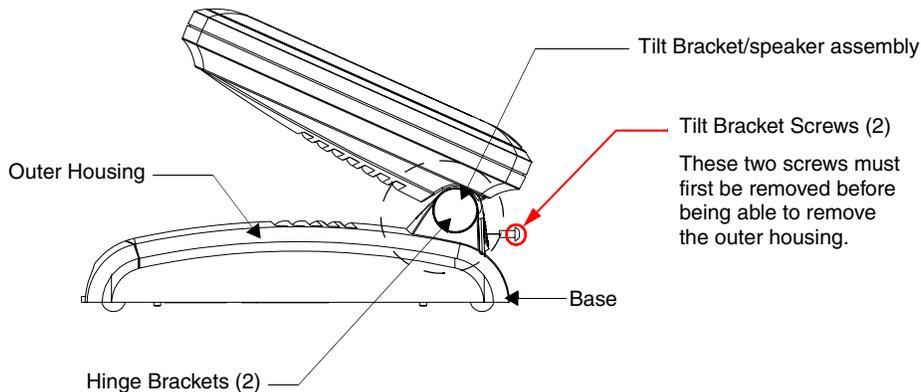

FIG. 16 Location of the Tilt Bracket screws
6. Locate the two screw holes at either sides of the front speaker grill and use a grounded Phillips-head screwdriver to remove the two Tilt Bracket Screws (FIG. 16). This procedure loosens the rear Tilt Bracket cover plate (with the AMX logo and Hinge brackets) and provides greater flexibility for the removal of the outer housing. **Without this step, the Hinge brackets (FIG. 16) present an obstacle to the removal of the outer housing and restrict access to the circuit board.**
3. Use a grounded Phillips-head screwdriver to both insert and secure the two Tilt Bracket Screws (FIG. 16). This procedure resecures the rear Tilt Bracket cover plate (*with the AMX logo and Hinge brackets*).